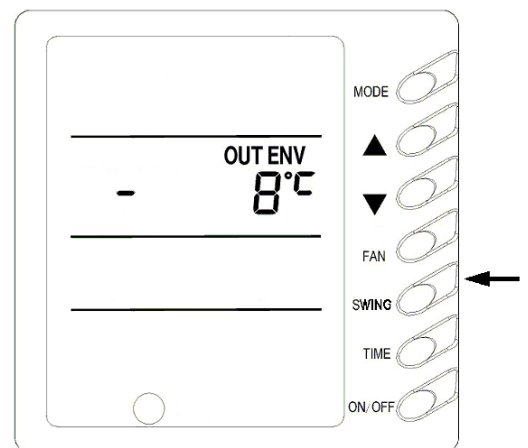

Fig.14
**7) Outdoor Ambient Temp Display ( Fig.14)**